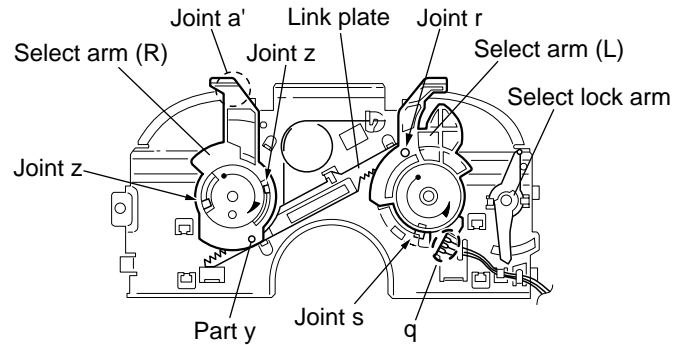

Fig.21
## ■ Removing the select arm (R) / link plate (See Fig.21 and 22)
1. Bring up the select arm (R) to release from the link plate (joint **y**) and turn as shown in the figure to release the two joints **z** and joint **a'**.